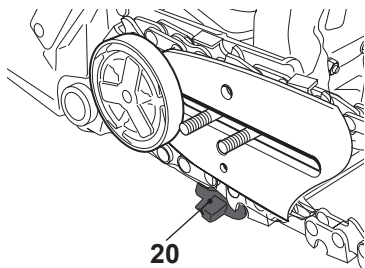

Fig. 10
- > Make sure the chain is placed above the chain catcher (20) (Fig. 10).